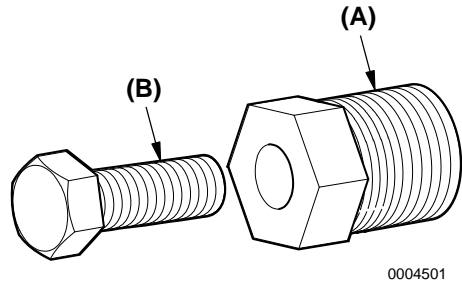

Figure 16
- Install puller (**Figure 16, (A)**) in the impeller.
- Turn the jack screw (**Figure 16, (B)**) clockwise to remove the impeller from the pump body.